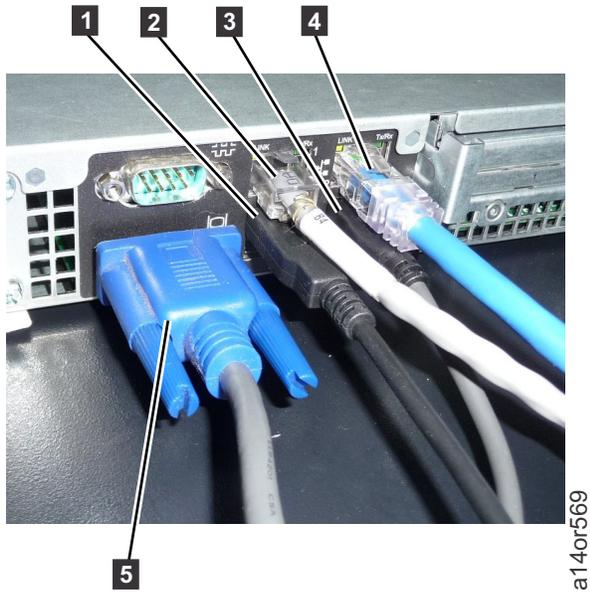

Figure 15. Cables plugged into the TSSC server, FC 2724
- For TSSC FC 2724, refer to Figure 15 on page 19.